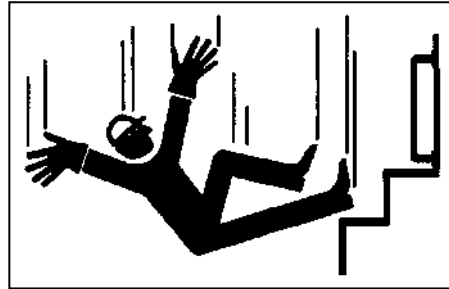

Figure 1.8
- 1) Always face the machine when you use the steps and hand-holds to enter or leave machine (As figure 1.8).